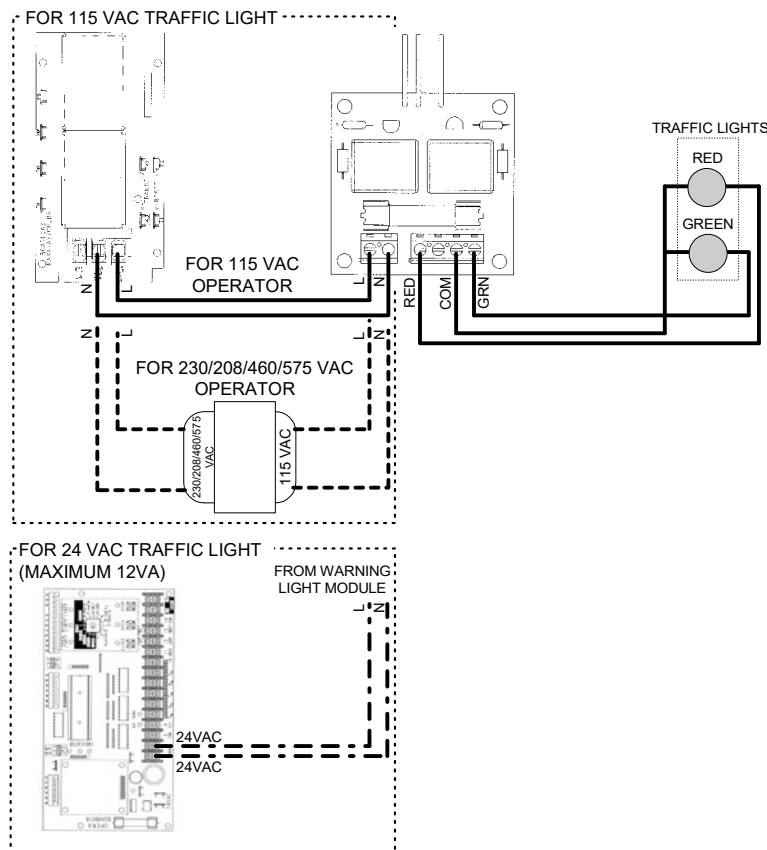

Figure 3 - Traffic Light Wiring Diagram
- b) Connect traffic light as per Figure 3 below.
- d) Connect traffic light as per Figure 3 below.
- g) Connect traffic light as per Figure 3 below.